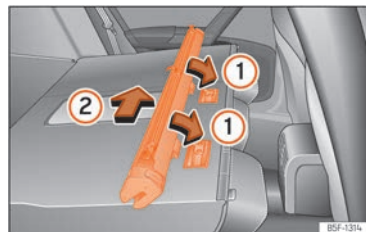

Fig. 141 Assembling the net partition in the rear seat backrests.
- Place the net casing in the rail slots in the direction of the arrows »» Fig. 141 ①.
- Push the casing towards the left side of the vehicle in the direction of arrow »» Fig. 141 ② and as far as it will go.
- Pull the net casing out approximately 5 cm in the opposite direction to the arrow »» Fig. 141 ②.
- Remove the casing from the rails by pulling in the opposite direction to the arrows »» Fig. 141 ①.